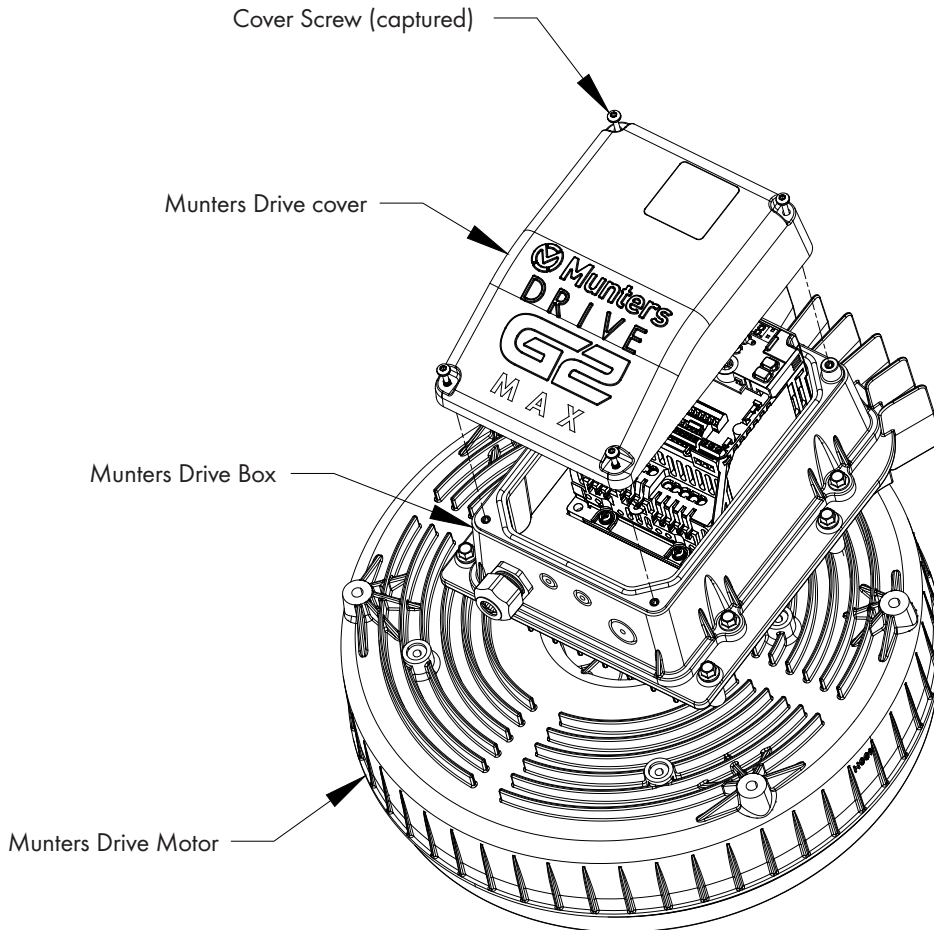

Figure 13
All cables that enter the Munters Drive box must enter through a properly sized watertight fitting. To access the Drive, loosen the (4) screws in the cover of the Munters Drive box to access the terminals inside to connect power and other cables. See Figure 13.